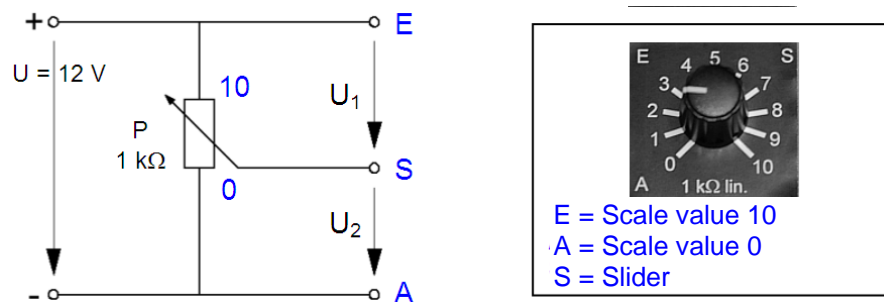

Fig. 3.10.2.2: Potentiometer
- Insert the potentiometer  $P = 1 \text{ k}\Omega$ , into the circuit of Fig. 3.10.2.2 on the Electronic Circuits Board. Use an input voltage of  $U = 12 \text{ V}$  (check the set value, on a multimeter).